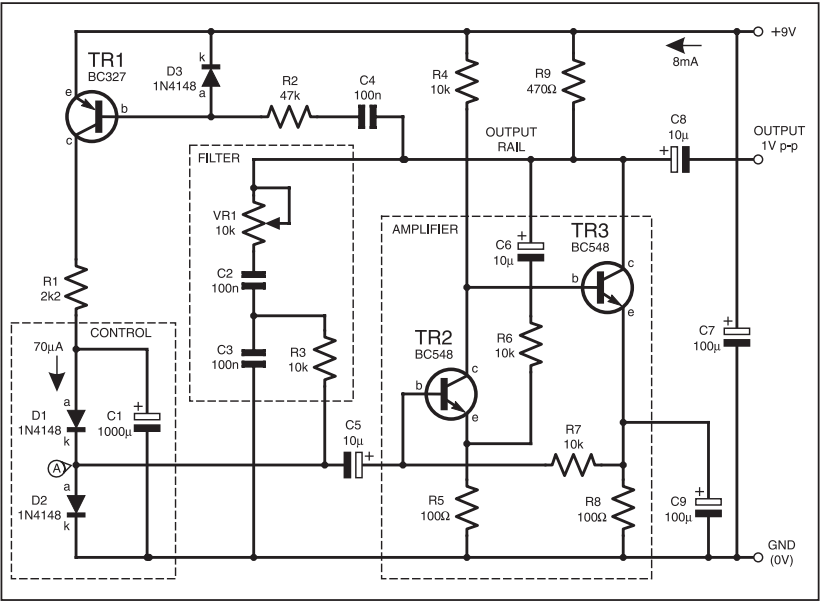

Fig.3. Circuit diagram for an "easy" Sinewave Generator.
GOOD quality sinewaves can be obtained from standard components, using the Wien bridge circuit shown in Fig.3. The filter produces a phase lead, followed by a phase lag, and the circuit oscillates at the frequency where lead and lag cancel.
Mounting axial lead components vertically, as in Fig.3, is not considered to be a good idea, because it also leaves the finished board prone to problems with pressure on the top surface ripping the joints and tracks away from the
*Fig.3. Mounting axial components vertically is best avoided but is called for by some component layouts. As usual, mount the components with the bodies as close to the board as possible.*